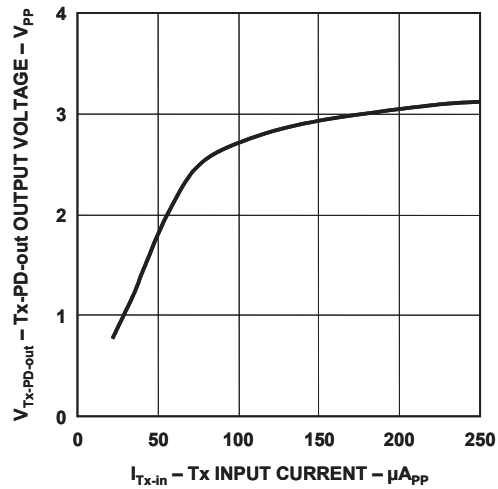
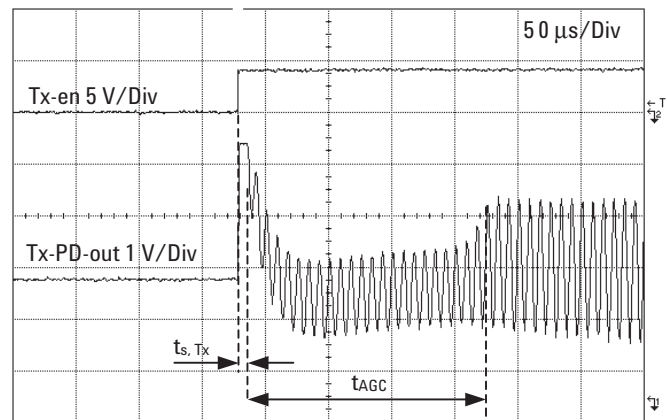

Figure 8. Tx-PD-out output voltage vs. Tx-in input current.
Figure 18. Tx-PD-out AGC response time.
1. Time from transmit is enabled (V_{Tx-en} is set to logic high) until output (Tx-PD-out) is available. See Figure 18 in the Application Information section.
2. Time from output (Tx-PD-out) is available until Tx-PD-out signal reaches 66% of its steady state level. See Figure 18 in the Application Information section.
This AGC circuit compensates for variations in the input signal level presented at Tx-in and variations in the optical channel over temperature and time. The Tx-PD-out output signal is effectively stabilized for input Tx-in signals of between 150 μA_{pp} and 250 μA_{pp} (see Figure 8). The AGC circuit starts to function 10 μs after the Tx-en signal is set to logic high. After a period of 180 μs the Tx-PD-out signal typically reaches 66% of its steady state level (see Figure 18). To ensure correct operation of the internal circuitry, an external 1 μF capacitor needs to be connected from pin 11 to GND2.